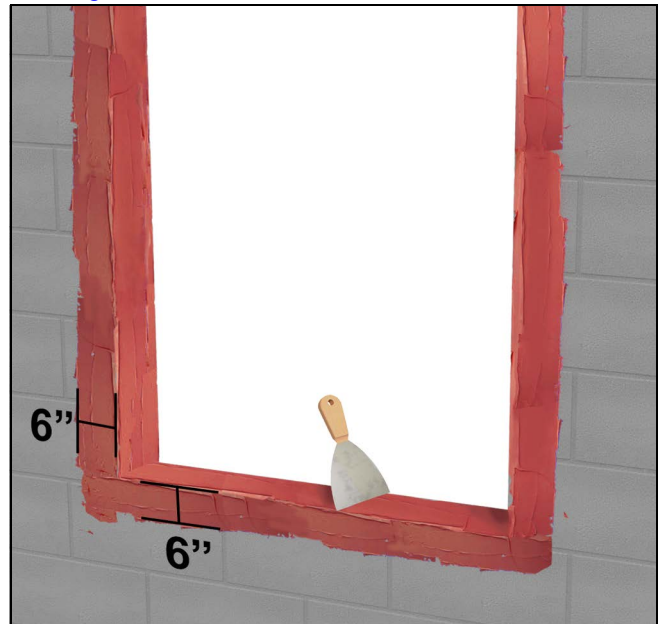

Figure 1
1. Apply a barrier such as self-sealing adhesive flashing or CMU sealer (liquid-applied coating) to all four sides of the masonry opening prior to buck and window installation. Begin by waterproofing the masonry opening on the installation surface, as well as 6" outwards on the inside and outside of the wall itself following local code and manufacturer requirements. See Figure 1.